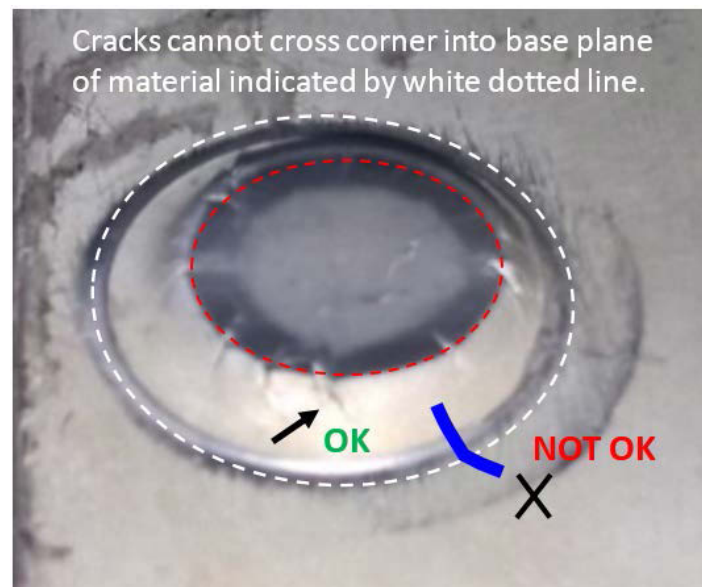

Figure 3: Crack Acceptance Criteria Zones on Die Side of Joint
3.2.1.2 Cracks. Riveted parts with cracks that are detectable in or around the rivet (except as shown in Figure 3) are discrepant. Part that exhibit bottom material cracks should be examined. Cracks in bottom material should not reach the rivet legs.